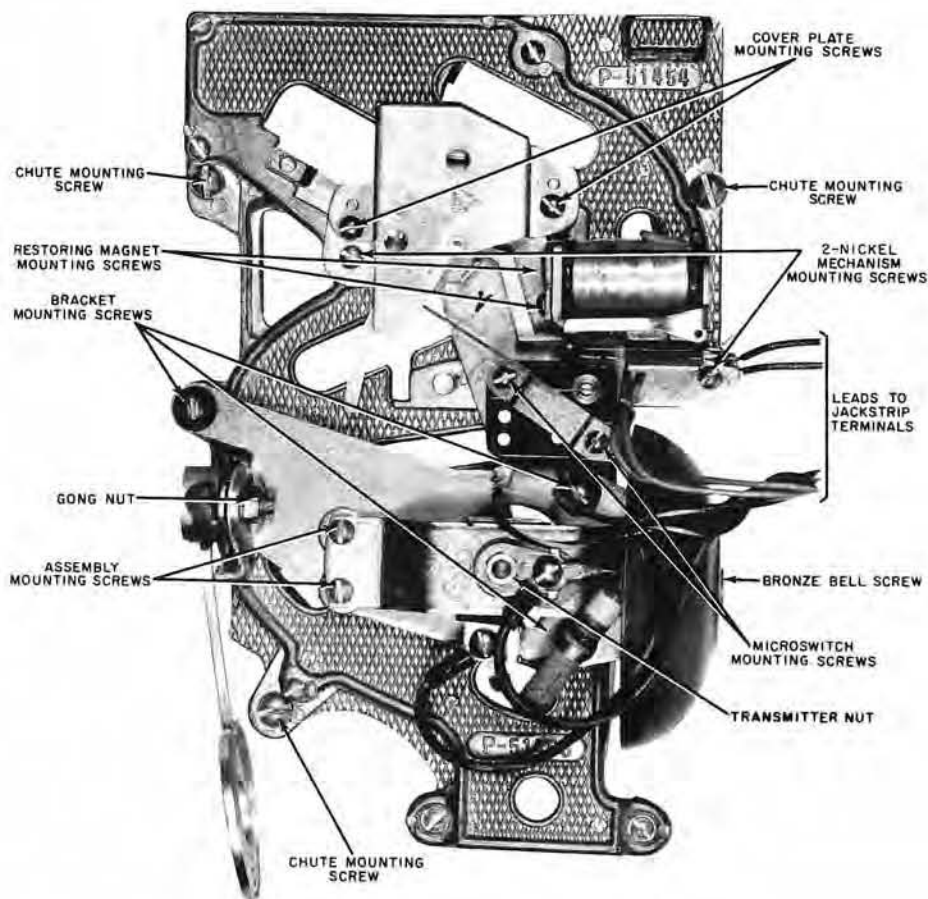

Figure 1. Coin Chute Assembly, Front View.
2.02 To remove the upper housing mechanism, lay the upper housing front downward on the bench and proceed as follows (refer to Figure 1):
- (1) Place the three parts of the coin chute together. Insert the slug rejector in the quarter slot with the retaining terminal, and install the screws and nuts (see Figures 1 and 2). Take care to use screws of the correct length.
- (2) Install the bell and gong mounting bracket with the three screws and nuts, being careful to use screws of the correct length.
- (3) Mount the cathedral gong.
- (4) Mount the bronze bell, and insert the flat brass washer between the bell and the bracket with the counter-sunk part of the washer next to the bell.
- (5) Test the coin chute with slugs or actual coins (see Paragraphs 2.09 and 2.10).
- (6) Place the restoring magnet on the mounting plate and secure with two screws.
- (7) Secure the microswitch to the mounting plate, taking care to clamp the restoring magnet leads with the clamp bracket.
- (8) Install the copper pivots for the pendulum and shock lever through the back of the plate.